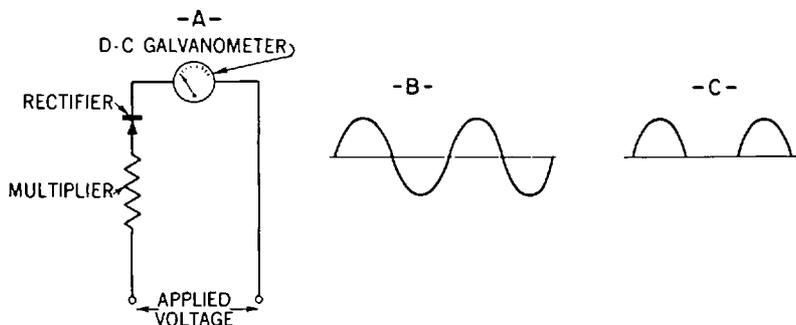

Fig. 32-31. *A*—Circuit of the half-wave rectifier-type a-c voltmeter.
**The Rectifier-Type Meter.** A common type of meter used in radio work for measuring low-frequency alternating currents and voltages is the *rectifier-type* instrument. In our discussion of crystal and metallic rectifiers (Chap. 28) we saw how these devices are able to change alternating current to direct current. Accordingly, such rectifiers are used with the d'Arsonval-type galvanometer to measure alternating currents or voltages. A simple rectifier-type voltmeter is shown in Figure 32-31. Note that the rectifier is of the half-wave type.